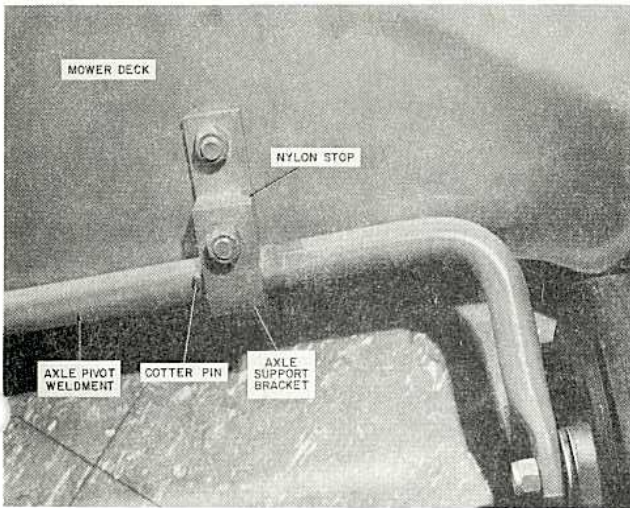

fig 2
5. Install a cotter pin in hole through axle just left of right side axle support. The cotter pin is not to interfere with the mower deck, fig 2.